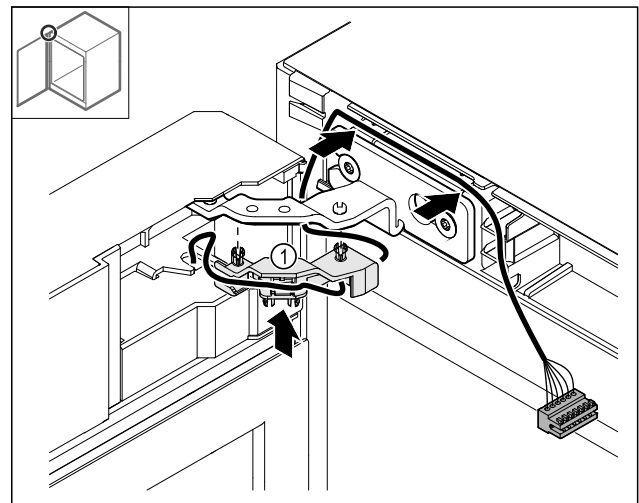

Fig. 47
- ▶ Press the cable bracket Fig. 47 (1) into the hinge.